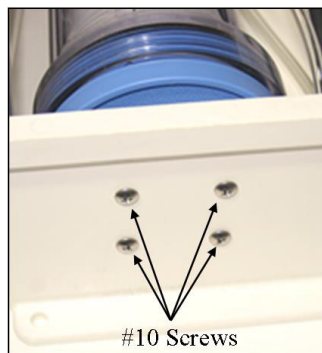

FIGURE H-1. Four screws holding filter assembly inside CPEC200 pump module enclosure
2. Remove the four, #10 self-sealing screws that hold the filter assembly within the CPEC200 pump module enclosure (see FIGURE H-1). If these screws become lost or damaged, replace them with pn 26412.